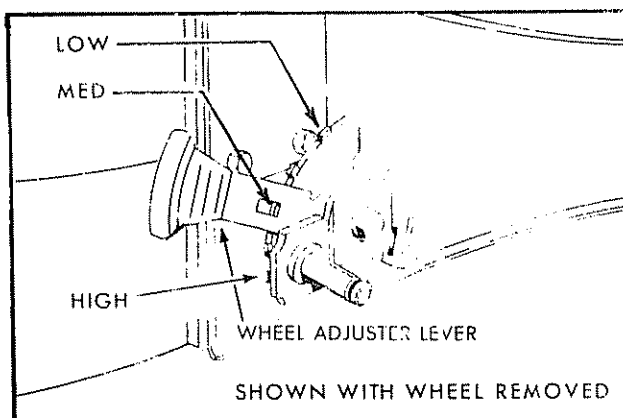
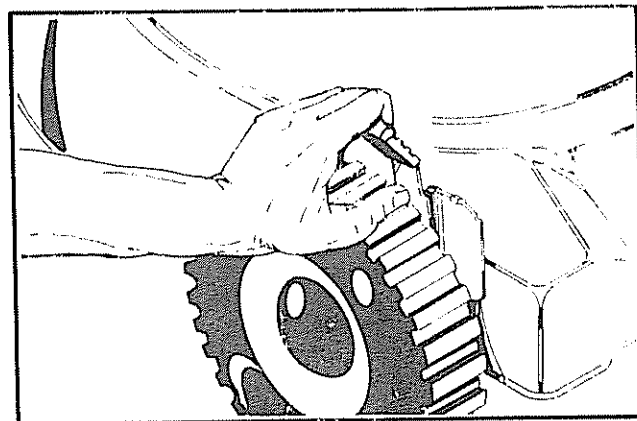

FIG. 6
FIG. 7
1. The wheel adjusters give you five (5) different cutting positions. Medium cut is the best for most lawns.
2. High cut is approximately 3 5/8", medium cut is approximately 2 1/2", and low cut is approximately 1 3/8". There are two (2) other positions. Pick the position which suits you for best cutting (See Fig. 6).
3. The wheel adjusters on your lawn mower can be easily adjusted as shown in Fig. 7. To change the height of cut, squeeze adjuster lever toward the wheel, moving up or down to selected height. Be sure all wheels are in the same setting (See Fig. 6).